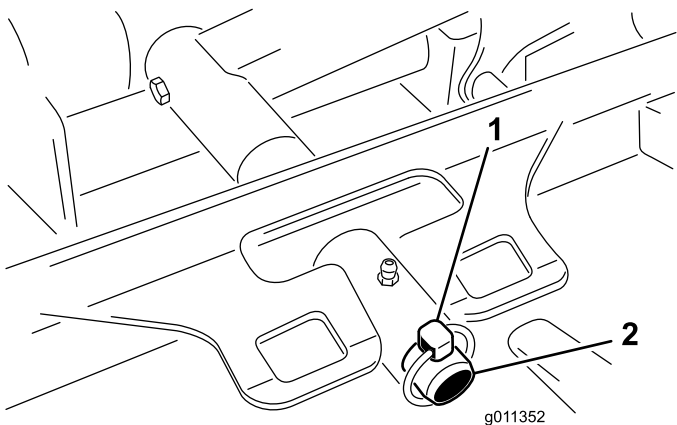

Figure 120
3. Remove the lynch pin (for Groundsmaster 4500 machines) or retaining nut (for Groundsmaster 4700 machines) securing the cutting unit-carrier frame to the lift-arm pivot pin (Figure 120).
2. Slide the cutting unit-carrier frame onto the lift-arm-pivot pin (Figure 120). Secure the cutting unit to the pin with the lynch pin (for Groundsmaster 4500 machines) or retaining nut (for Groundsmaster 4700 machines).